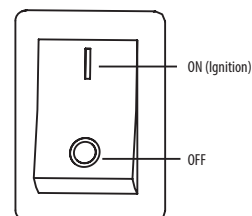

Figure 15
5. If equipped with an Emergency Stop Control switch, make sure that the Emergency Stop Control is set to the ON position, represented by the solid line, while attempting to start the engine. See Figure 15.
To stop the running engine using the Emergency Stop Control, move the switch to the OFF position, represented by the circle. See Figure 15.